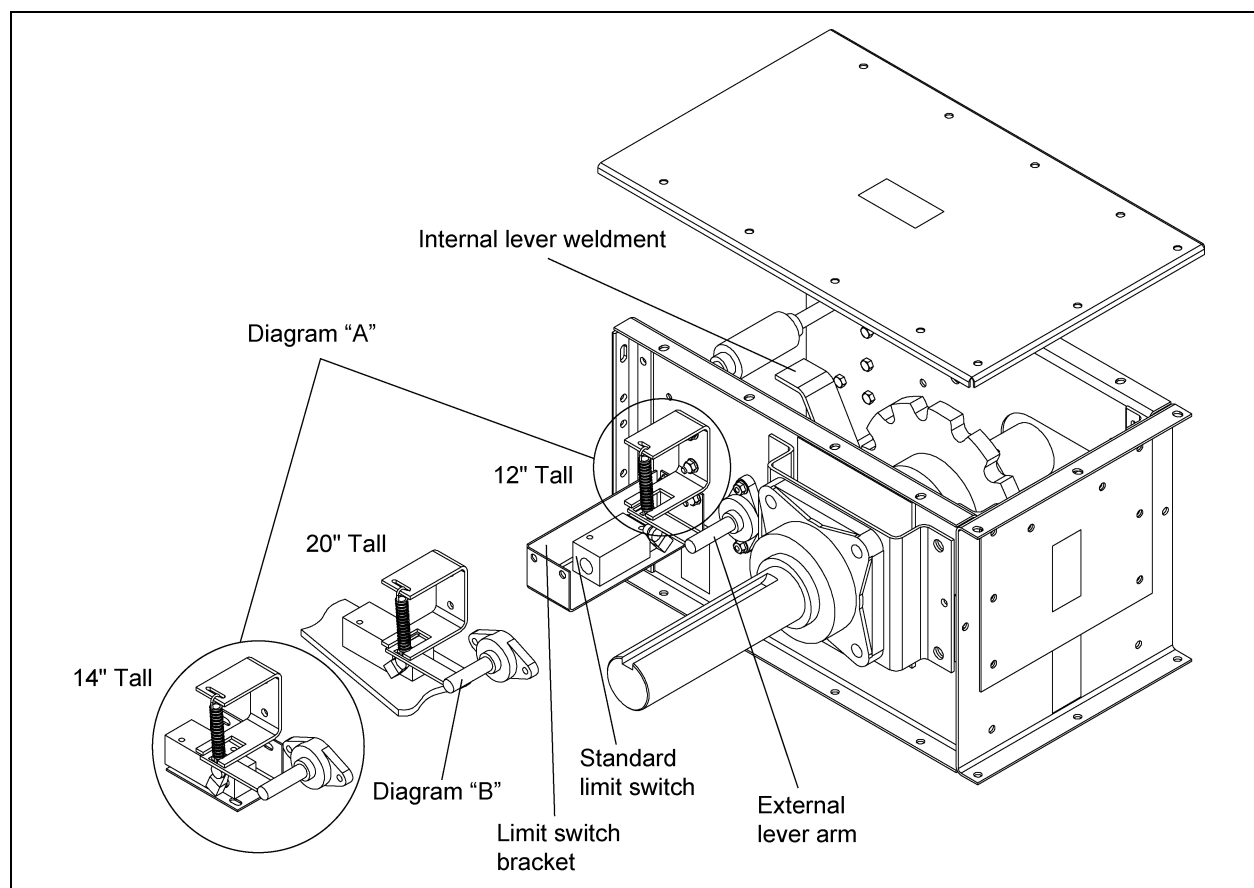

Figure 10D
Next, remove the two (2) cover plates from the sides of the head section. Attach the two (2) bearings to the sides of the head section. Insert the lever arm weldment through the internal lever weldment and both bearings as shown *in Figure 10D*. Remove any paint, scale or rust from the lever arm weldment rod before assembling. **The internal lever weldment must face away from the head sprocket as shown in the Figure 10D.**
Attach limit switch bracket to conveyor head section. Note the orientation of the limit switch brackets as illustrated in the *Diagram A in Figure 10D*. Also, please note that some 20" tall conveyors will not use the limit switch clips. The limit switch may be attached directly to pre-punched holes in the bearing plate gussets. (*See Diagram B in Figure 10D.*)
A standard limit switch is shown *in Figure 10D*. An explosion proof limit switch should be used in extremely dirty or dusty conditions, and/or in enclosed environments.